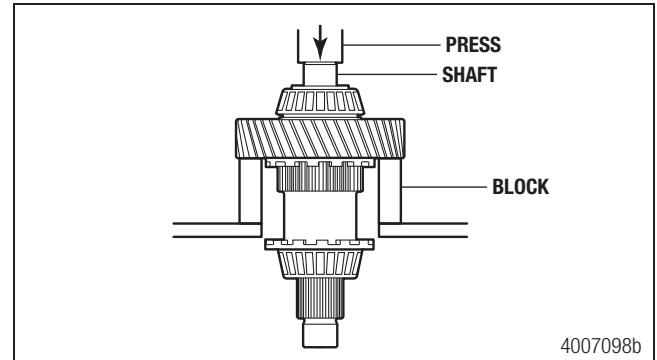

Figure 5.24
4. Prepare the shaft for bearing and gear removal. Install the front output shaft into a press with the rear of the output shaft facing UP. Support the shaft correctly. Figure 5.24.